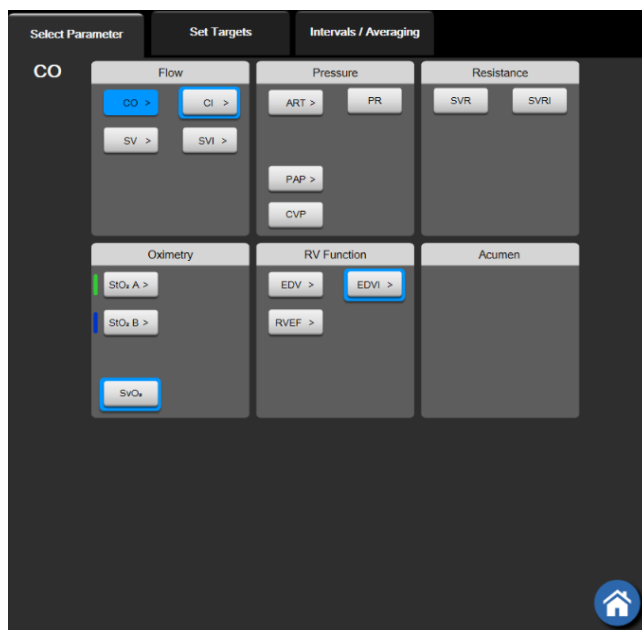

Figure 5-4: Example of key parameter selection tile configuration menu
2. The tile configuration menu will show the selected parameter highlighted in color and other parameters currently being displayed outlined in color. Available parameters appear on the screen without highlights. Figure 5-4 on page 92 shows the parameter selection tab of the tile configuration menu that will appear while selecting continuous parameters and monitoring with the HemoSphere Swan-Ganz module. The appearance of this window while monitoring with other HemoSphere modules or cables varies from what is shown in Figure 5-4 on page 92.
Parameters are organized into categories. The categories available are based on the current monitoring mode. Categories, listed below, are grouped together on the parameter selection configuration menu. See Figure 5-4 on page 92.